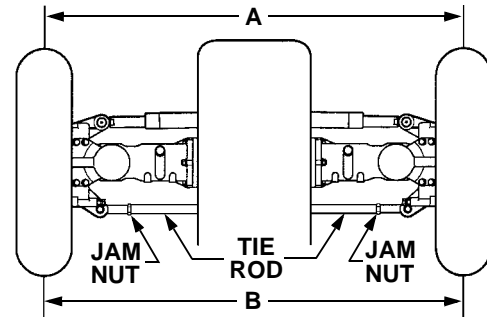

Figure 39
- Measure and record the distance 'A' between the two front marks. Then measure and record the distance 'B' between the two rear marks. See Figure 39.
- Loosen the jam nuts at both ends of the tie rod. Refer to Figure 39.